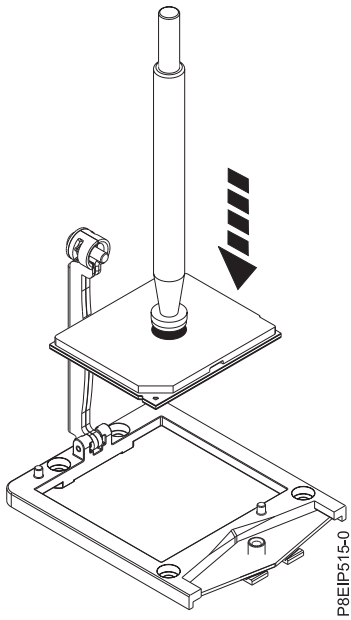

Figure 54. Lowering the processor into the socket
- a. Lower the pen and system processor module onto the socket as shown in Figure 54 on page 48. Align the beveled corner of the processor with the beveled corner on the socket. Use care to lower the tool evenly without tilting the processor.